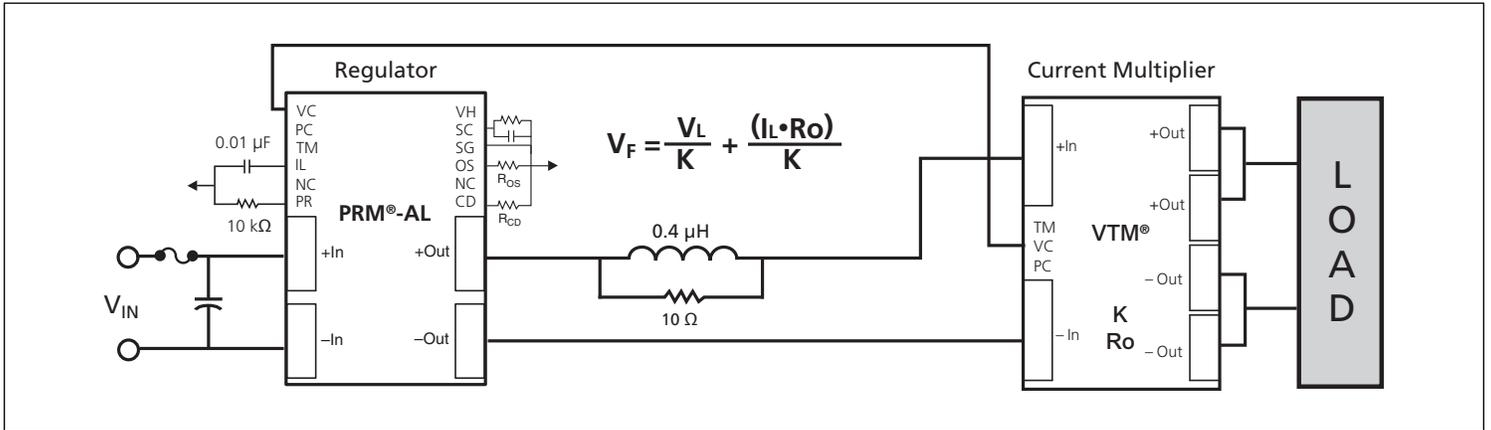

Figure 16 — Adaptive Loop compensation with soft start using the SC port.
- $V_f$  = PRM output voltage, the Factorized Bus (see Figure 16)
Where  $V_{fd}$  is the desired factorized bus and  $V_{fs}$  is the set factorized bus. A low voltage source can be applied to the SC port to margin the load voltage in proportion to the SC reference voltage. An external capacitor can be added to the SC port as shown in Figure 16 to control the output voltage slew rate for soft start.